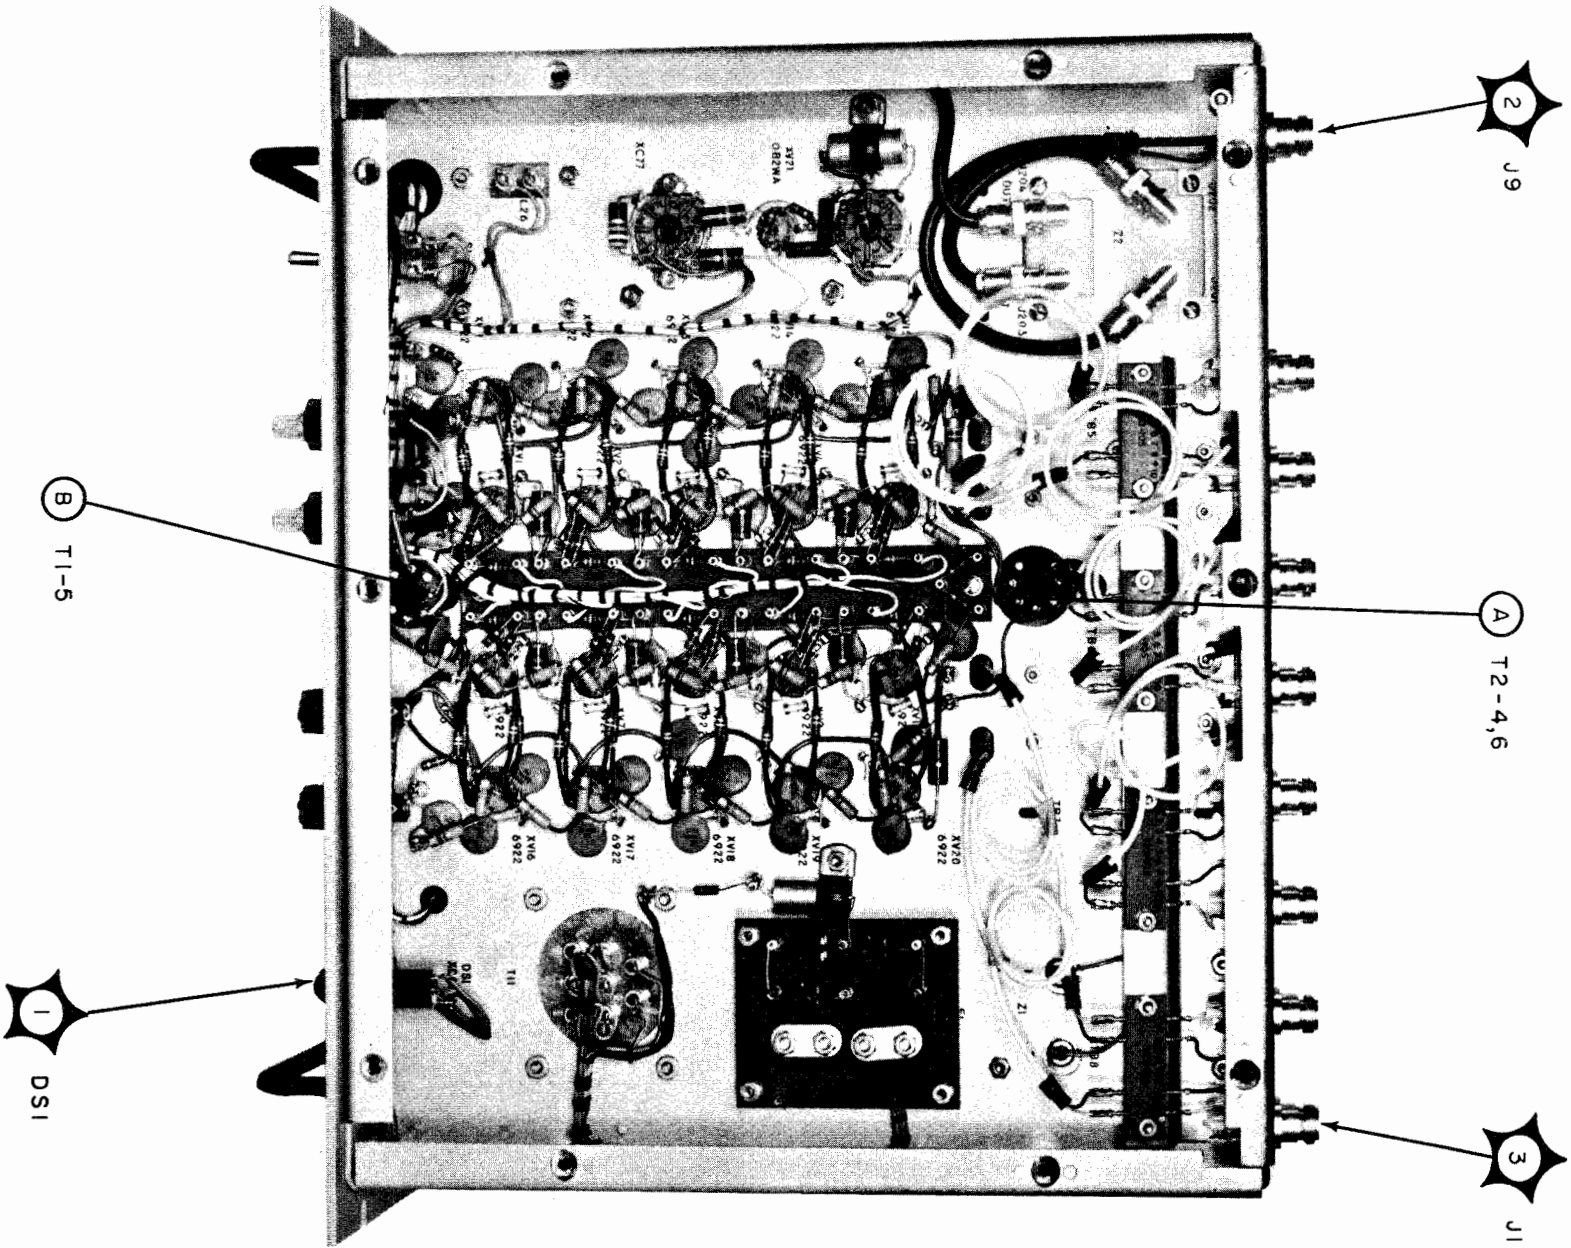
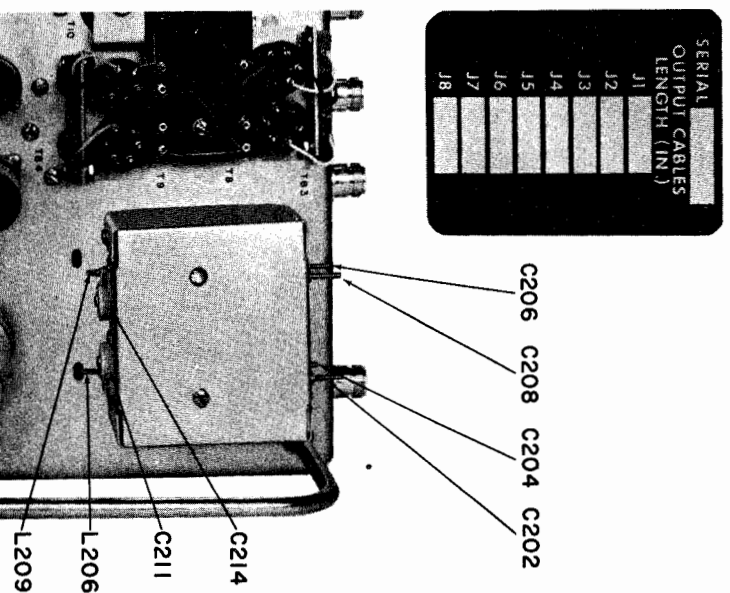

Figure 5-1. Antenna Coupler CU-872A/U, Locations of Test Points.
Figure 6-1. Antenna Coupler CU-872A/U, Location of Adjustments.
*c.* A system of test points has been established to facilitate troubleshooting. The test points are shown on the overall schematic, figure 6-1, and the physical locations are shown in figure 5-1. The test points fall in two categories: major and secondary. Each major test point is identified by an encircled Arabic numeral enclosed in a star. Starred numerals are used to identify points for checking overall performance including the signal input and output terminals. Each secondary test point is identified by an encircled capital letter. Circled letters are used to identify circuit supply voltage terminals and points for measuring gain.
*d.* TROUBLESHOOTING CHART.—The chart in Table 5-1 is a systematic check to be used when trouble arises. The test points appearing in the column marked TEST POINTS are located on figures 5-1 and 6-1.
*a. GENERAL.*—Coils L49 through L52 should need adjustment only in case of damage. If the coil has not been broken replacement may not be necessary and reference should be made to paragraph 6-3d. If the coil has been broken, replacement and adjustment will be necessary. Location of the coils is shown in figure 6-1.
*a.* GENERAL.—The following paragraph gives a detailed procedure for adjustment of filter Z2. Locations of adjustments are shown in figure 6-1. All adjustments on filter Z2 are sealed with cement. Adjustment should be made only after a critical component fails and is replaced, or when other circumstances require it. Whenever the amplitude response of filter Z2 is adjusted, the adjustments described in paragraph 6-5 must also be performed.
Locations of phase adjustments are shown in figure 6-1. All adjustments on filter Z2 are sealed with cement and phase adjustment should be made only after a critical component fails and the phase of the no. 3 output of the unit is found to be more than 2 degrees at 28 mc when compared to the no. 3 output a chosen reference coupler. The phase adjustment procedure of this section may be performed independently of the adjustment of amplitude response of filter Z2 described in paragraph 6-4.